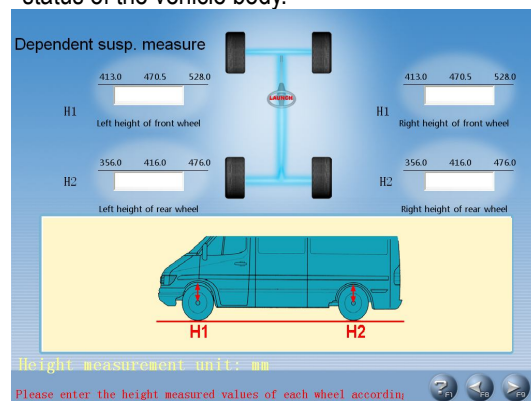

Fig.4.9
- When some special vehicle models (such as RENAULT MEGANE II) are selected, the screen will pop up an interface of [Dependent Suspension Measurement] as shown in Fig.4.9. This interface provides an operating platform for dependent suspension measurement system, in order to confirm the standard data according to the current status of the vehicle body.